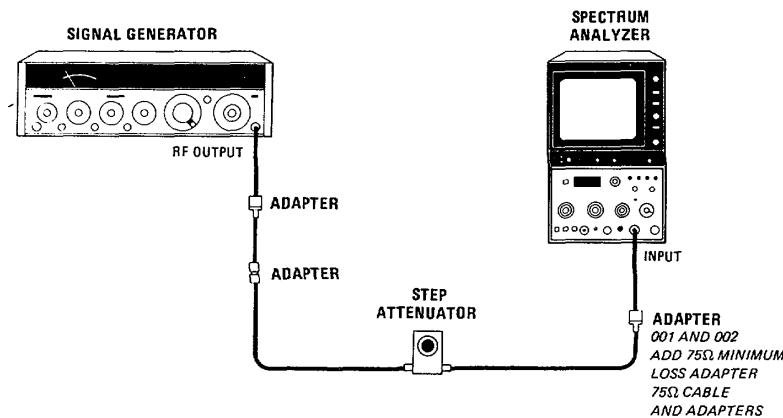

Figure 4-19. Reference Level Accuracy Test Setup
2. Connect equipment in Figure 4-19 with step attenuator set at 0 dB. Locate signal on CRT.